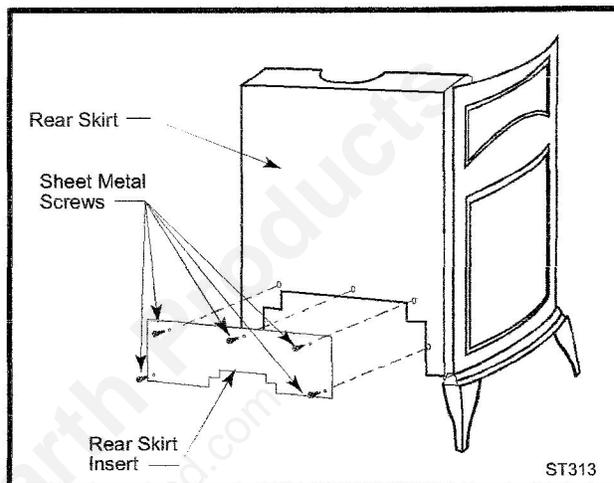
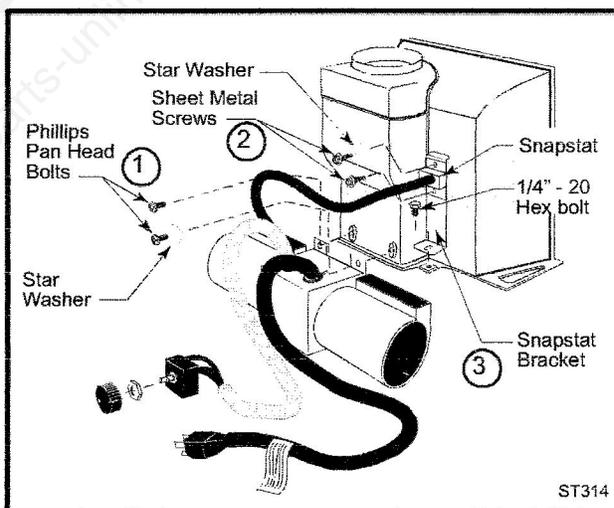

Fig. 20 Remove rear skirt insert.
Fig. 21 Attach the fan assembly and the snapstat.
2. Remove the rear skirt insert panel at the bottom of the Rear Skirt (Fig. 20) and fasten the blower assembly to the firebox back with the two Phillips pan-head bolts originally installed in the firebox back. ('1', Fig. 21)
3. Attach the snapstat assembly to the snapstat bracket with two sheet-metal screws. ('2', Fig. 21) Attach the snapstat bracket to the stove with a hex-head bolt passing through the bracket and into the stove base. ('3', Fig. 21)